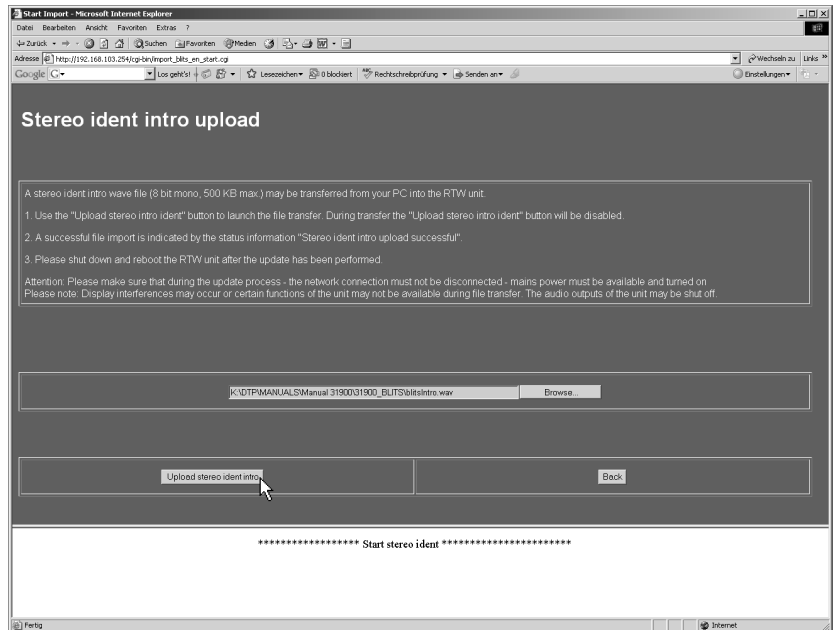

Fig. 8-36: Starting the upload
5. A click to the Upload stereo ident intro button starts the data transfer to the SurroundControl units (see Fig. 8-36). If the Upload stereo ident intro button is not visible move the menu page upward by using the scrollbar on the right. **Please make sure that no interruption of the network access or supply power occurs during the download sequence.**